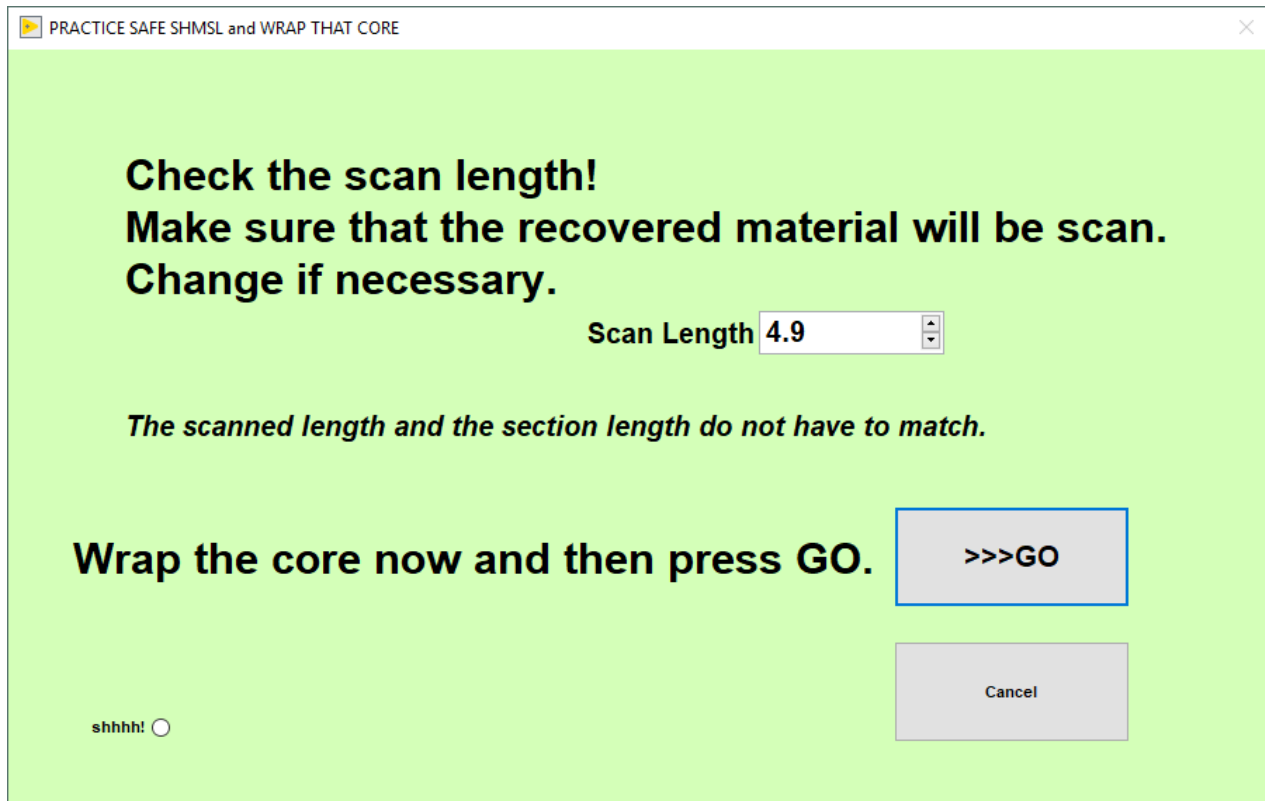

Figure 18. Section Length Confirmation Window
3. When the laser reaches the end of the section, the Section Length confirmation window will appear (Figure 18).